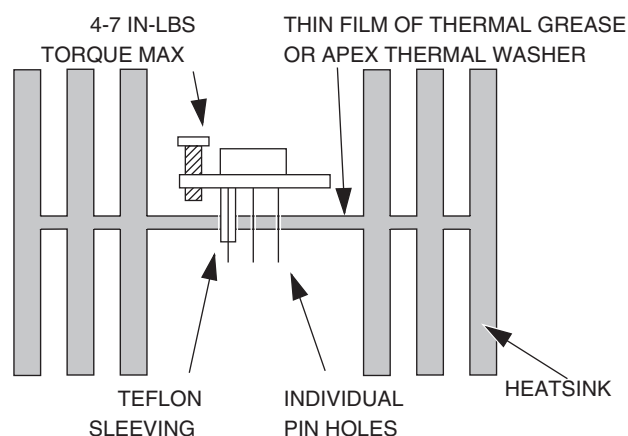

FIGURE 14. MOUNTING CONSIDERATIONS
- 3) Do not over torque the case. Recommended mounting torque for the TO-3 and SIP packages is 4-7 in-lbs (.45-.79 N-m) and for the MO-127 Power Dip™ packages (PD10 AND PD12) is 8-10 in-lbs (.90-1.13 N-m). Refer to Figure 14. Apply a thin, uniform film of thermal grease or an Apex Microtechnology thermal washer between the case and heatsink. Apply small increments of torque alternately between each screw when mounting the amplifier.